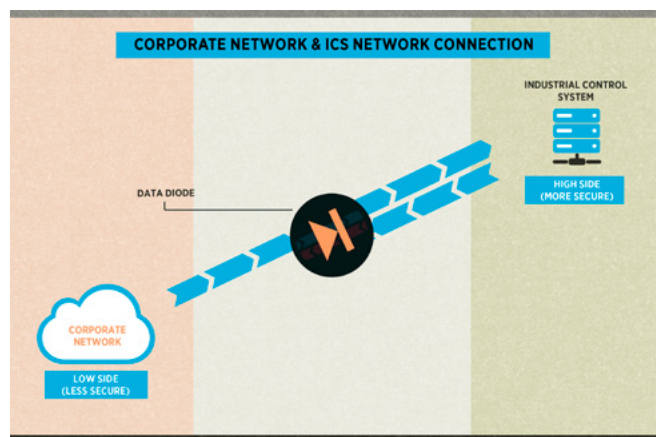

Figure 1. Write Only Control System Data Diode
- Making a network segment write only (see Figure 1).